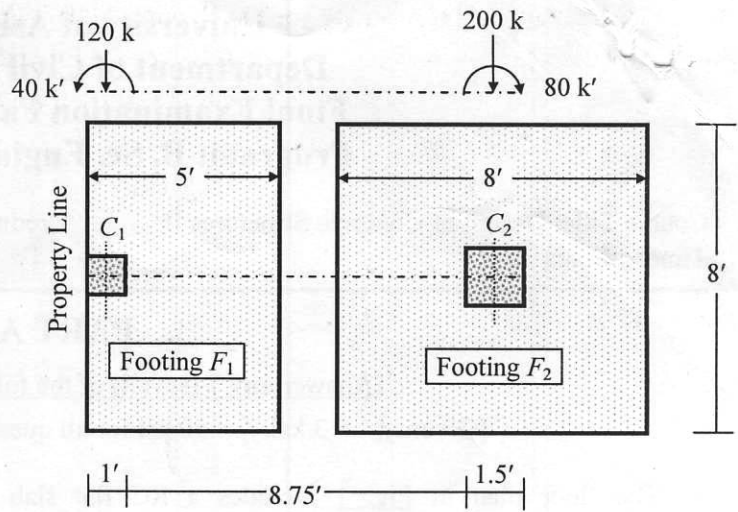

Fig. 2
Fig. 2 for Question 2(a)
5. Fig. 2 shows the axial force and bending moment on (12" × 12") column  $C_1$  and (18" × 18") column  $C_2$ .